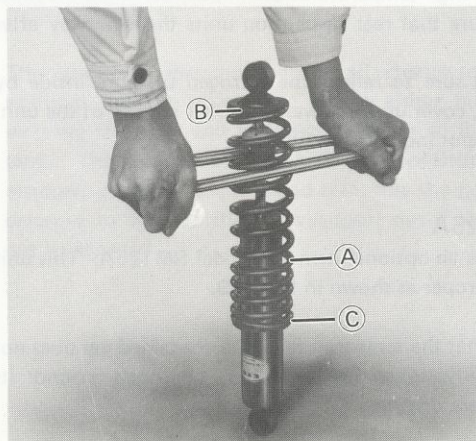

Fig. 146. Compressing lower spring
- Using a bar, compress coil spring **A**, as shown in Fig. 146.
- Remove coil spring seat **B** from the lower portion of the unit, Fig. 146.